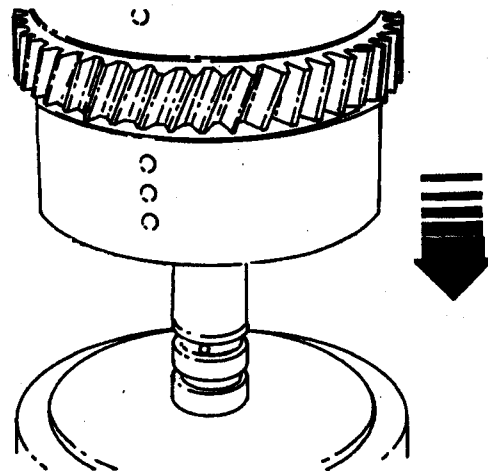

Figure 35.
9. Knock the clutch shaft on a piece of aluminum (or wood) to remove the piston (See Figure 35). If the piston does not loosen when the clutch shaft is knocked on aluminum, then hand pump air down the shaft oil inlet hole.